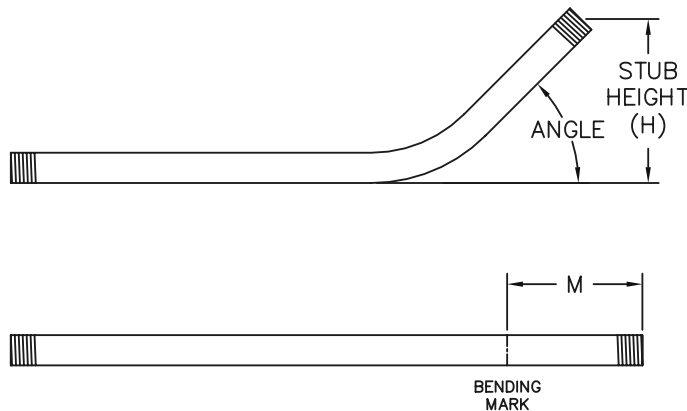

FIGURE 17A
1. Determine the desired stub height (H) and angle for the bend (See figure 17A).